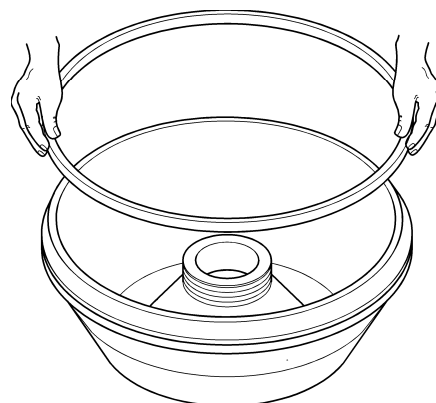
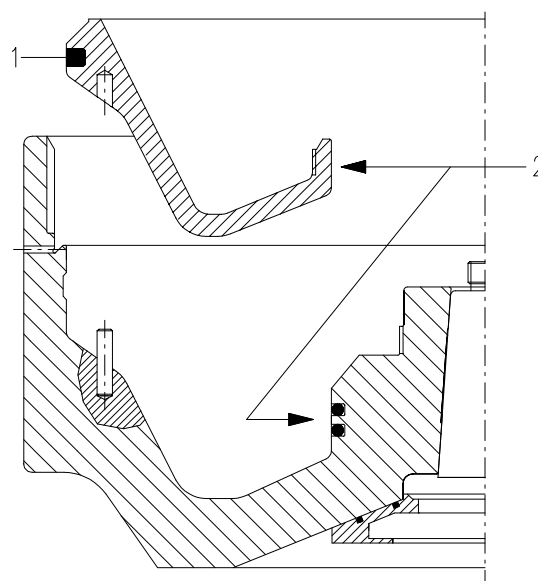

Figure 6.5
Figure 6.6
- 4) Carefully clean the groove on the moving ram and apply the rubber gasket (Fig. 6.5 and Fig. 6.6 - part 1) using a plastic hammer. Inserting the gasket, pay attention that the surface in contact with bowl body has not shear rags. Be sure that the external surface of the gasket does not protrude from the groove
- 5) Smear antiscuff grease on the coupling surfaces of the bowl hub and the moving ram (Fig. 6.6 part 2).